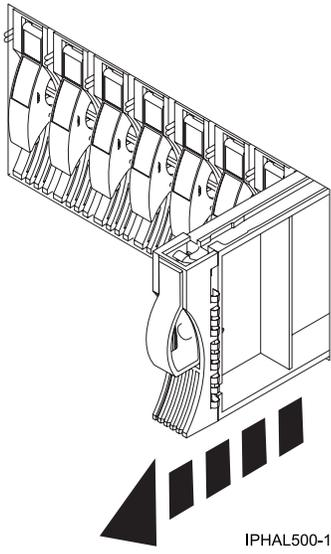

Figure 12. Removing a disk-drive filler from model
- a. Pull the disk-drive filler from the slot as shown in Figure 12 on page 14.